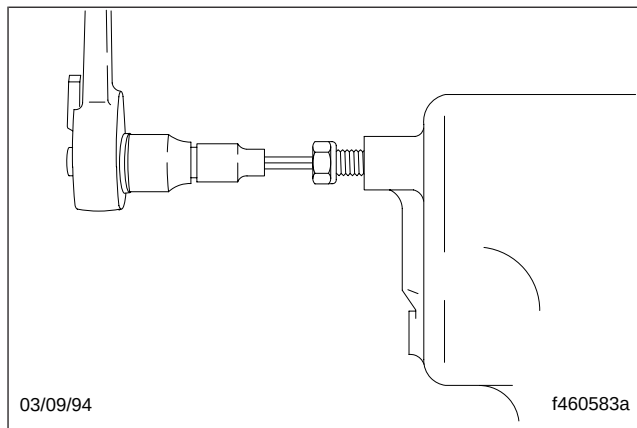

Fig. 1, Adjusting Screw and Nut Assembly
6. Using a 7/32-inch Allen wrench, turn the adjusting screw and nut assembly (without turning the nut on the screw) into the housing until the nut is firmly against the housing. Tighten the nut against the housing. See **Fig. 1**.